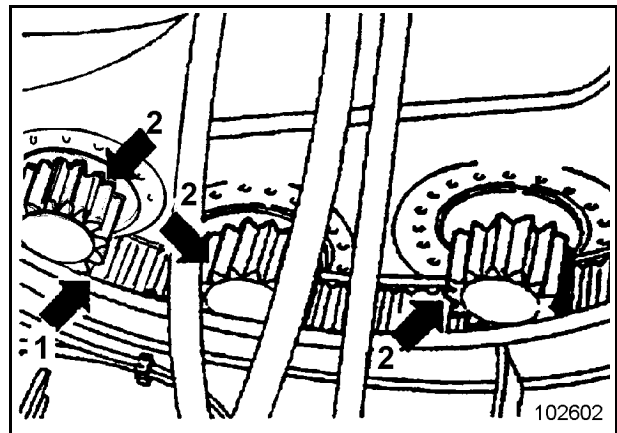
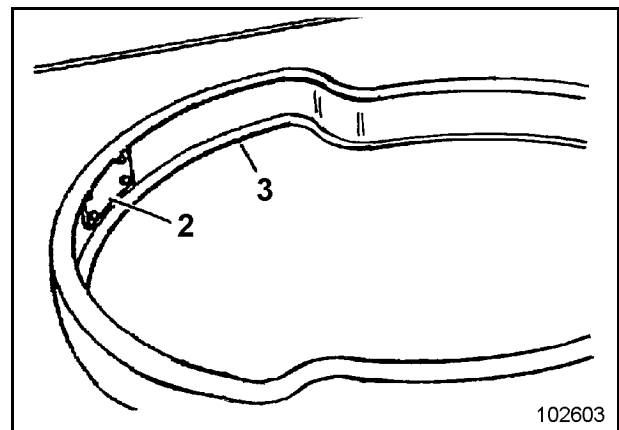

Fig. 3-93:
Fig. 3-94:
The internal gearing (1, Fig. 3-93:) and the pinion (2) are enclosed in a housing (3, Fig. 3-94:). The housing forms a grease-filled trough in which the pinion of the slewing mechanism moves.
The housings have a check opening which is closed with a cover (2, Fig. 3-94:). For checking, the cover must be removed.